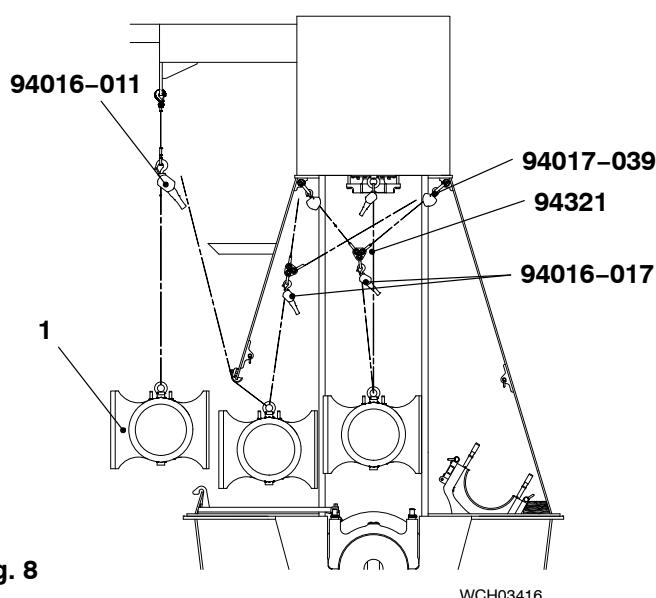

Fig. 8
- 3) Attach the manual ratchets (94016-011, 94016-017, Fig. 8) to the eye bolt on the guide shoe.
- 6) Move the guide shoe (1) through the door frame as follows:
- b) Lower the guide shoe (1) on to an applicable wooden underlay.